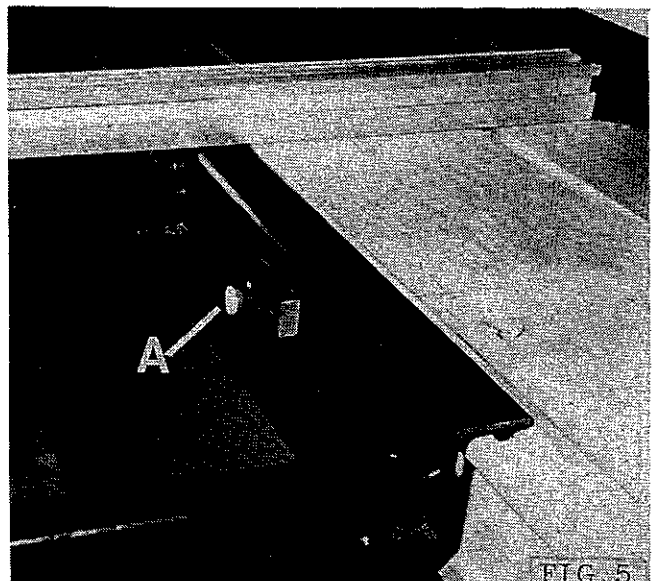

FIG. 5.
1. Support extension table and locate the 2 extension table mounting blocks in outer slot of aluminium sliding table as shown in FIG.5.
3. Position extension table flush with end of aluminium sliding table as shown in FIG.5, and carefully lock knurled handwheel "A".